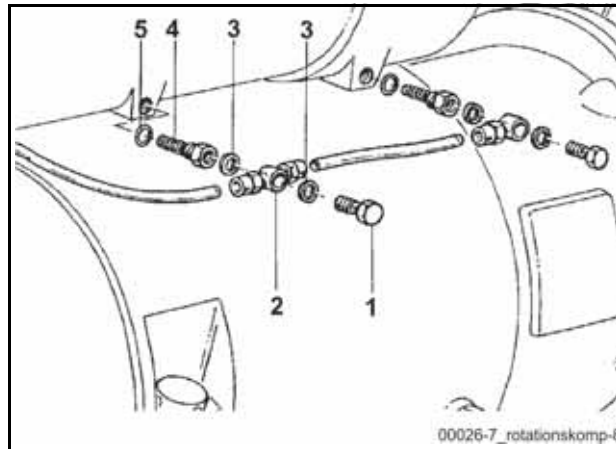

Fig. 383 Oil return valves
- Loosen the hollow screws **(1)** (**Fig. 383**).